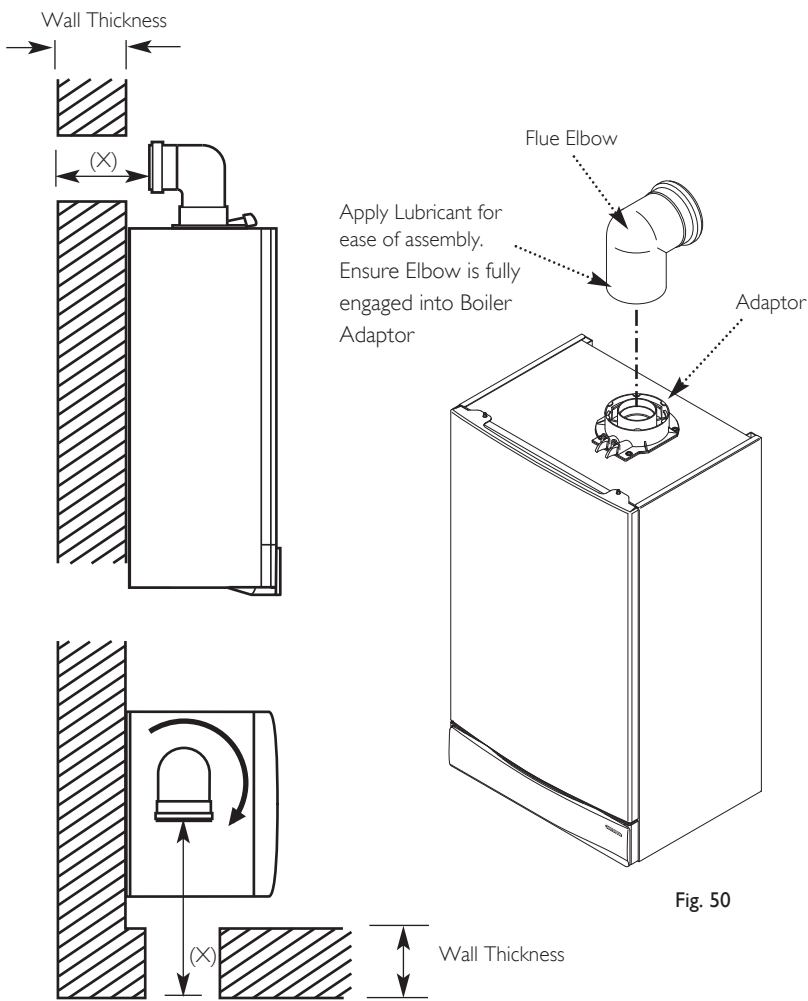

Fig. 50
2. Locate the flue elbow on the adaptor at the top of the boiler. Set the elbow to the required orientation (Fig. 50).